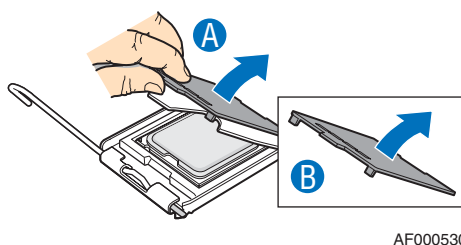

Figure 14. Removing the Protective Socket Cover
9. Remove the protective socket cover (see Figure 14).